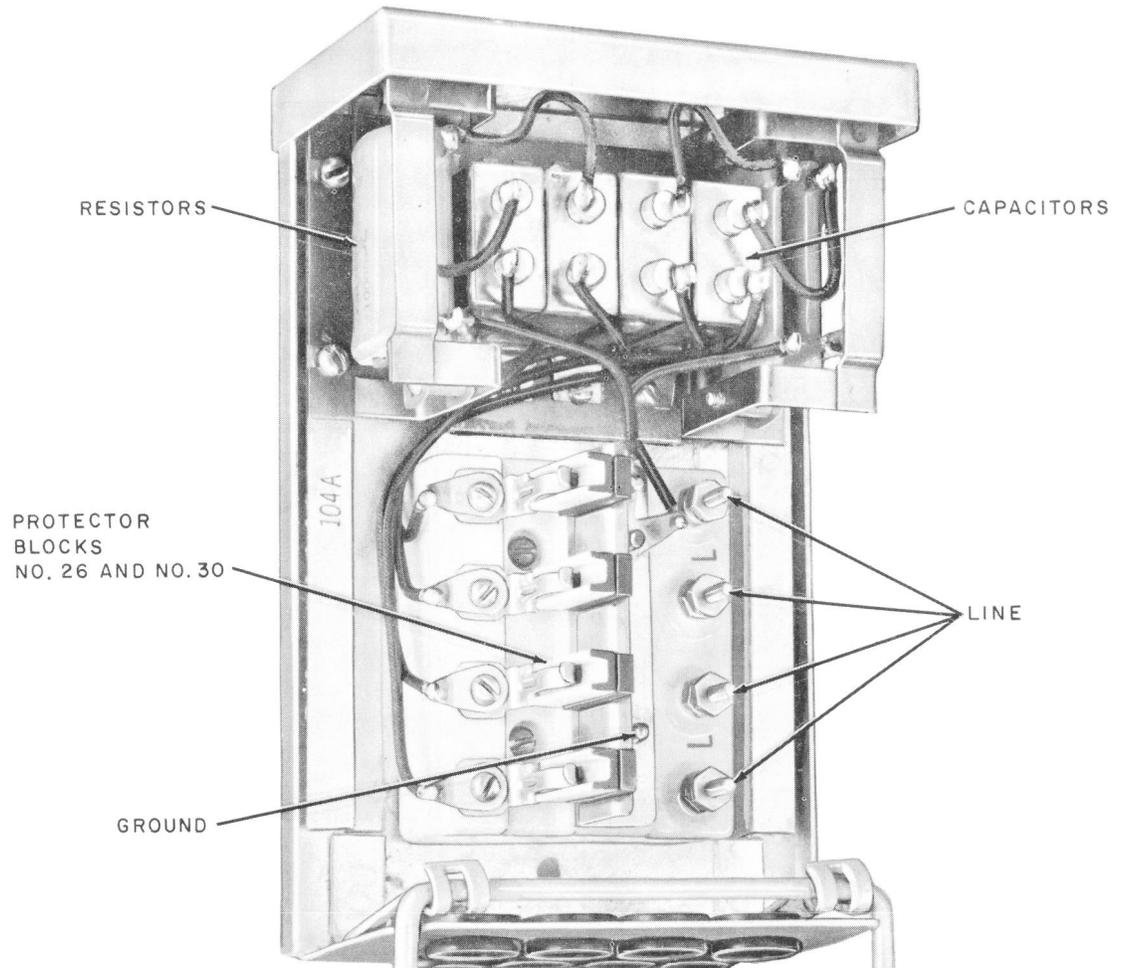

Fig. 2—104A Protector
3.05 Fig. 2 shows the inside of a 104A Protector, and indicates the ground binding post and the binding posts for the two telephone lines.